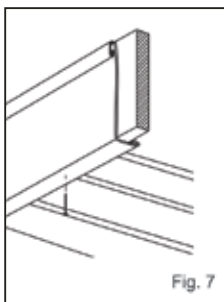

Fig. 7
- Install the fascia behind the roofing drip edge to hold the top edge of the fascia (Figure 6). If no drip edge exists, field formed finish trim should be installed at the top of the fascia board (Figure 7).
- Cut the first panel to size based upon the calculation above and fit into place. Be sure to retain the panel profile. Use a piece of finish trim* and a snap lock tool to hold the cut edge securely in place (Figures 7 and 8).